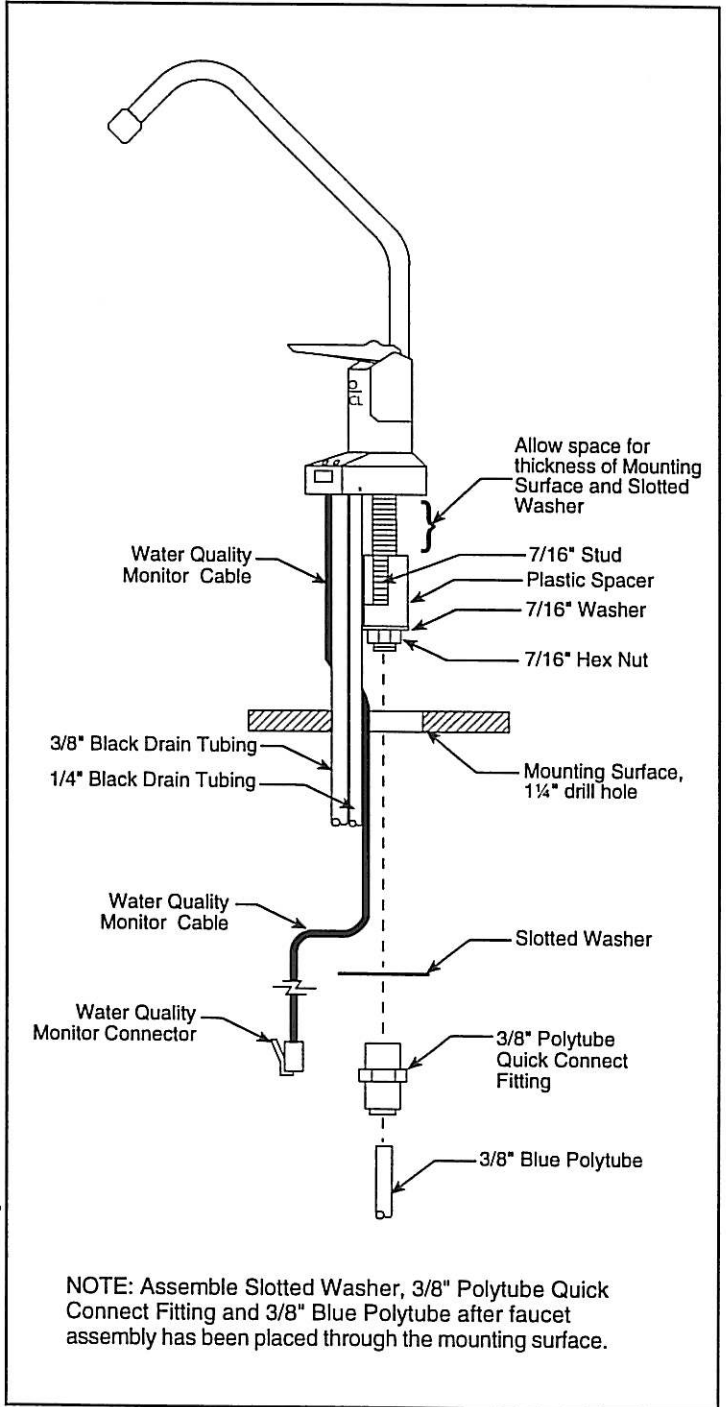

Figure 2B
- From the top of the counter place the stud, tubing and Water Quality Monitor Connector Cable through the mounting hole. See Figure 2B, page 7.